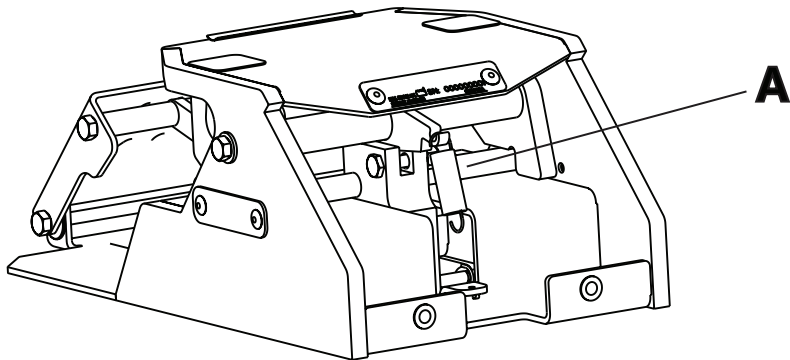

Figure 17 – Fastener lubrication
2. Spray Tri-Flow™ with Teflon® lubricant (6082-199-012) onto the area indicated below (A) (Figure 17).